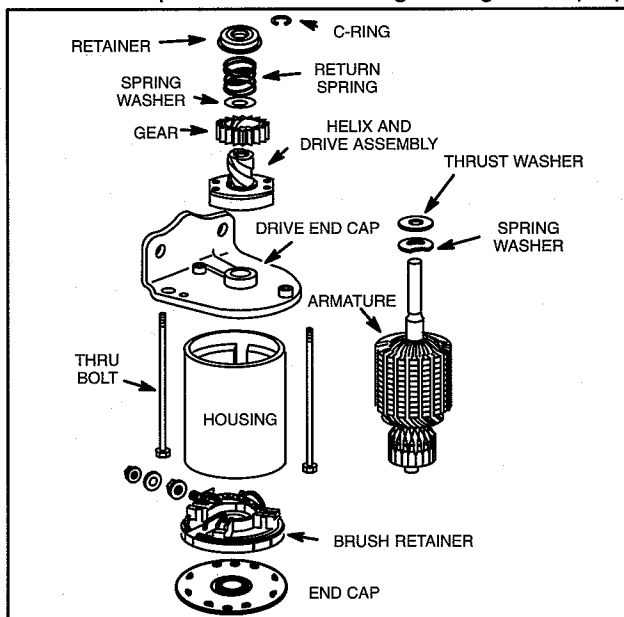
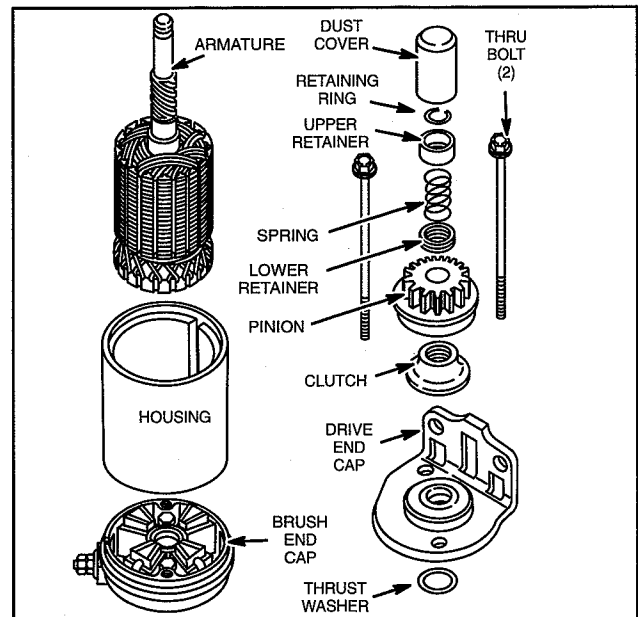

Fig. 17 – Starter Motor With Radial Compression Brush Spring (Typical)
Fig. 18 – Starter Motor With Axial Compression Brush Spring (Typical)
1. See Fig. 17 or Fig. 18 for exploded view of two style starter motors. To aid in reassembly, scribe a mark on drive end cap and starter housing for alignment purposes. Remove thru bolts.